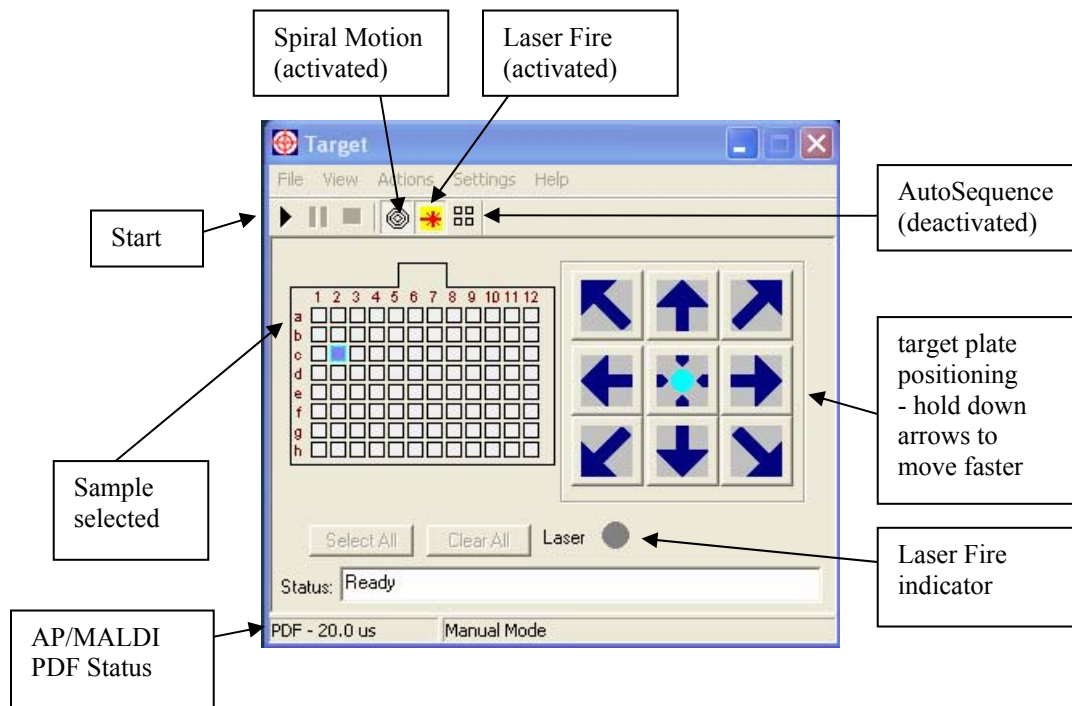
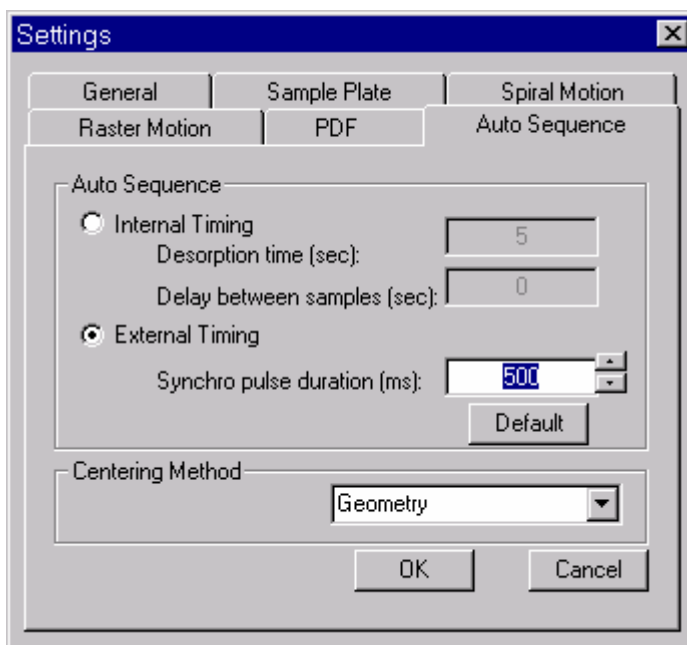
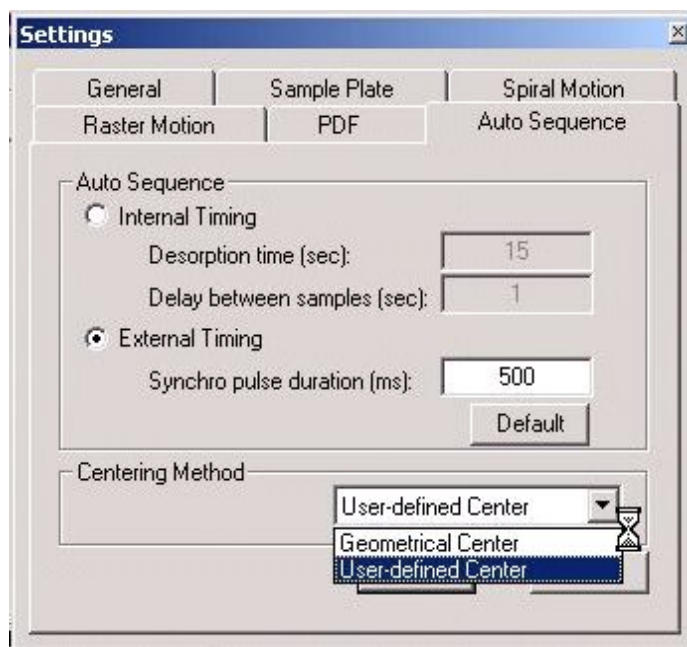

Fig. 7-12. Target software controls.
Fig. 7-25. Selection of Automated Mode.
Fig. 7-26. Selection of sample Centering.
There are two modes of operation for the Target software: Manual (AutoSequence toolbar icon is deactivated) and AutoSequence. Switch between the modes by pressing the AutoSequence toolbar icon  (Fig. 7-12). In manual mode, only one sample on the "Target plate" can be selected. Click any spot in the Target Plate field and the target plate will move to the selected position. You can shift the position of the spot by clicking the arrow buttons placed around the Center button (See Fig. 7-12) or holding down on the arrow buttons to advance faster. Click the Center button to restore the central spot position.
1. Deactivate the “AutoSequence” button in the *TARGET* software window (See Fig. 7-12 for location of AutoSequence button).
The selection between the two Automation modes is implemented in the “Auto Sequence” tab of “Settings” dialog box of Target software (the dialog is activated through “Settings” menu item). It is shown in Fig. 7-25. Different modes of centering are available and include: Geometrical Centering (Geometry) and User-defined Centering (Manual) see Fig. 7-26.
2. **Check** the “AutoSequence” button is activated in the main *TARGET* software window (see Fig. 7-12). For Internal Timing, **check** the “Internal Timing” radio button in the *TARGET*’s “Settings Dialog” window (see Fig. 7-25). You don’t need any External Control cable in this case. For External Control, **check** the “External Timing” radio button. 500ms in the figure is the appropriate duration of Start pulse.